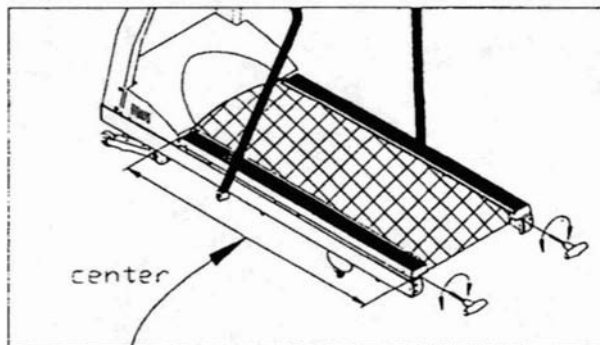

Fig.13
2. If there is too loose, you can tighten the belt by adjusting both bolts on rear roller colockwise 1/2 turn at one time. Conversely, if the belt is too tight, adjust both bolts counterclockwise 1/2 turn at one time.(see Fig.13)